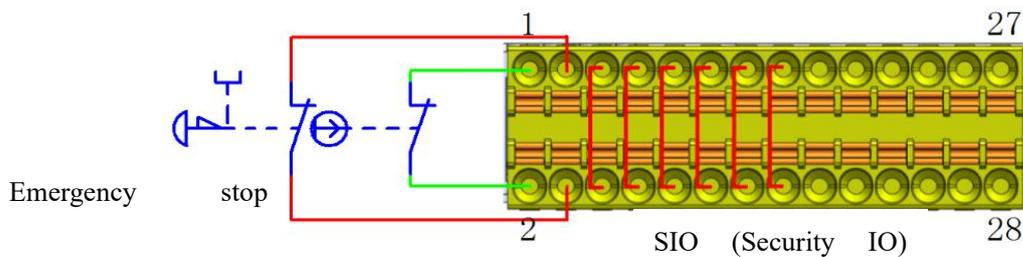

Figure 10 External Safety Signal Input Wiring Diagram
b) Connecting external security input signals Figure 10 shows the connection diagram of the security input port connecting external security input signals. The external safety input signal is a dry contact signal. Here the external safety input signal takes the emergency stop button as an example.